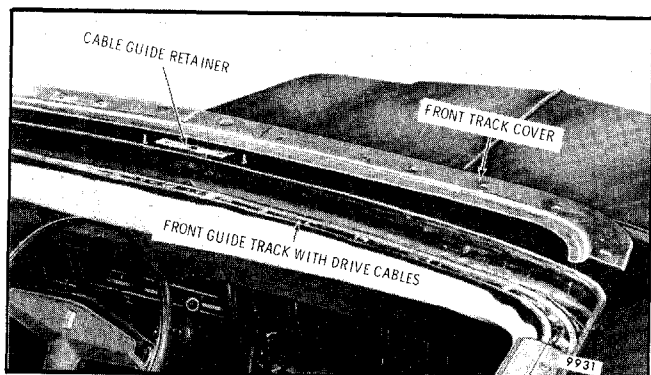

Fig. 8-97-Removing Front Track Cover and Cable Guide Retainer - C Styles
3. If adjustment is required, open panel about 8" and remove front track cover (on glass roof see warning note) and cable guide retainer (Fig. 8-97). On glass roof go to step 7.